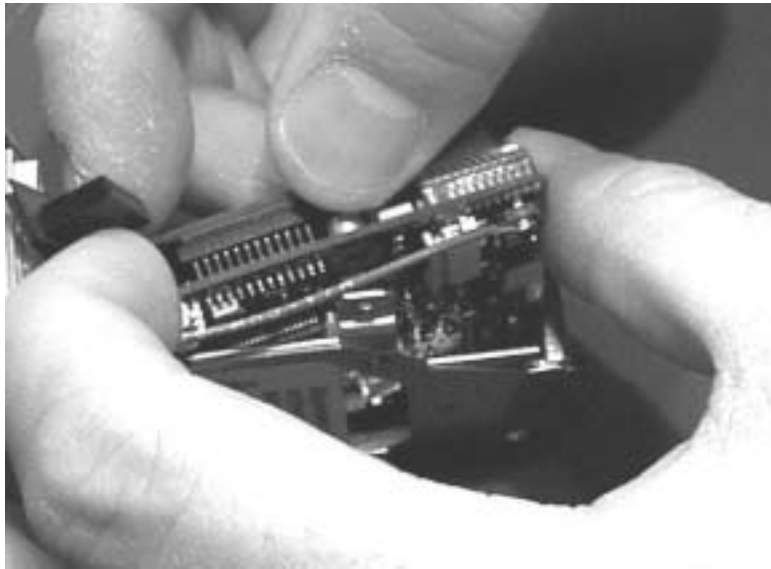

Figure 6-6 Line up the 24-pin plug
Step 1. Hold the SpO₂ connector cable out of the way and line up the 24-pin male plug-in connector on the Main PCB and the female plug-in connector on the ECG PCB. See Figure 6-6.